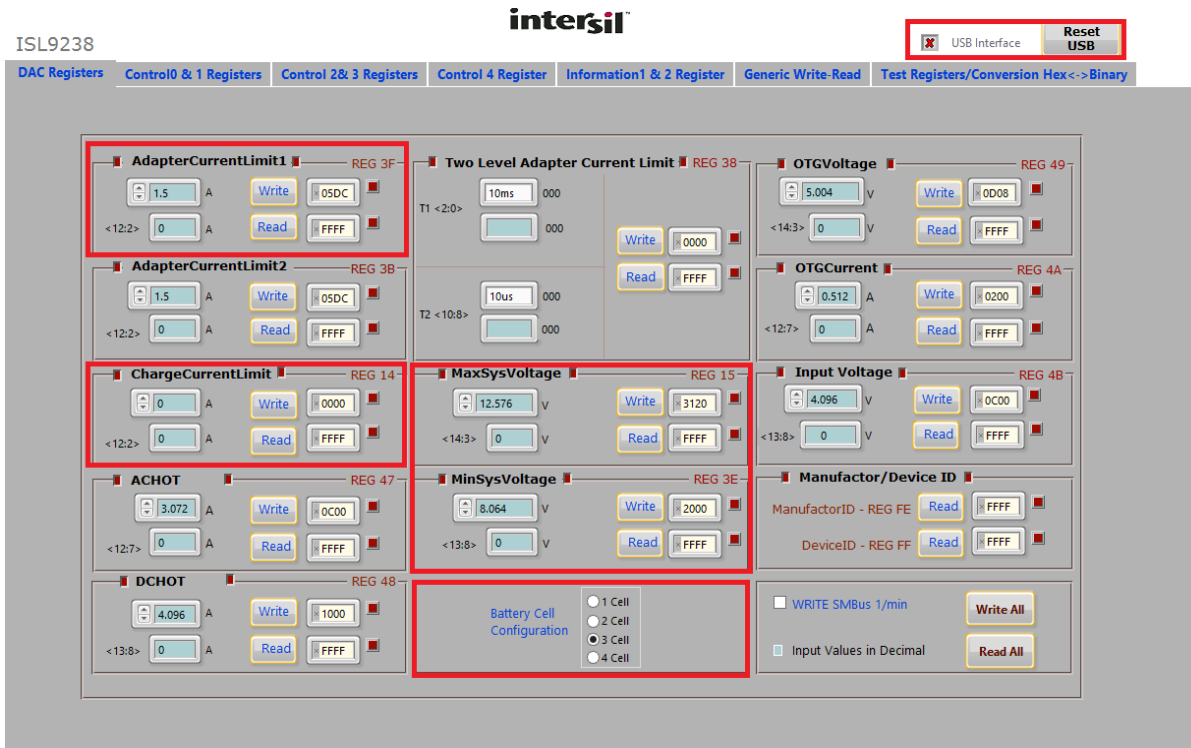

FIGURE 2. GUI SNAPSHOT
The number of battery cell and adapter current limit default values can be configured with a standard 1% 0603 resistor (R_{23}) from the PROG pin to GND. The "PROG PIN PROGRAMMING OPTIONS" table in the ISL9238 datasheet shows the programming options. After the default number of cells in series are set, the default values for MaxSystemVoltage and MinSystemVoltage are set accordingly. These values can also be changed through the SMBus control registers, which are implemented with the Intersil GUI, shown in Figure 2 on page 3.
4. Turn on the power supply; LED 3 goes out. Then turn on the battery emulator and open Intersil ISL9238 GUI (Figure 2 on page 3). Note: The USB interface with a green tick means the GUI is ready to communicate with the evaluation board. If the USB interface shows a red cross, the GUI is not ready to communicate with the evaluation board. Click the “reset USB” button until a green tick shows in the USB interface. If not green, check the USB connection.